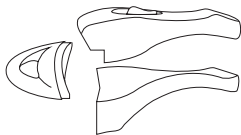

Fig. 6
- The handles and grips allow the pressure cooker to be opened and closed, as well as its manipulation. Universal® Outer Lid Pressure Cookers have a handle on the lid and on the body; pressure cookers with a capacity of 4 liters or higher also have an auxiliary handle on the body, facilitating their handling. (See Fig. 6)